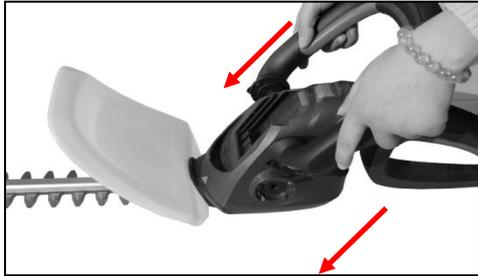

Fig. 7
Attach the front handle to the main housing as illustrated in Fig.7, Make sure the lock spanner (10) is at the right side before attaching the front handle otherwise the front handle cannot be aligned with the housing. (Fig.7)